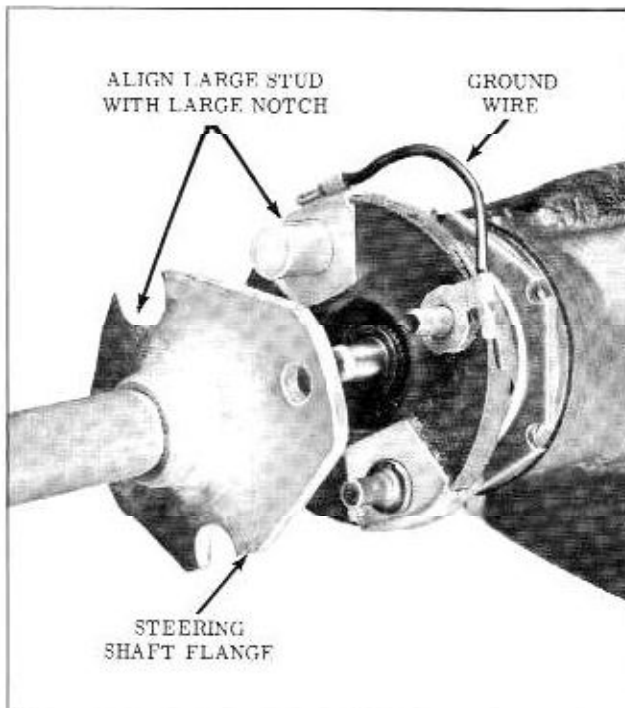

Fig. 4-71 Flexible Coupling
1. Remove the two coupling flange attaching nuts and lock washers. Remove ground wire from flange attaching bolt. (Fig. 4-71)